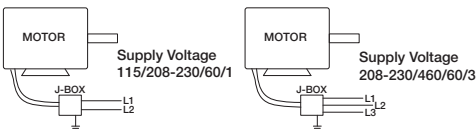

Figure 2 — Typical Wiring Diagram
NOTE: Refer to Figure 2 for connection wiring diagram.
4. Mount and wire safety disconnect switch either on the drive frame or outside on the curb cap and wire motor per wiring diagram on motor. Wire control switches at ground level. Refer back to Figure 2 for connection wiring diagram.